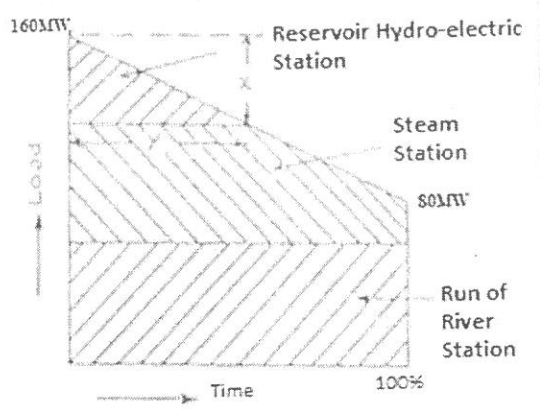

Figure Q3: Load duration curve
- (a) The load duration curve of a system is as shown in the following figure Q3. The system is supplied by three stations – a steam station, a run of river station and a reservoir hydro-electric station. The ratios of number of units supplied by the three stations are as below: